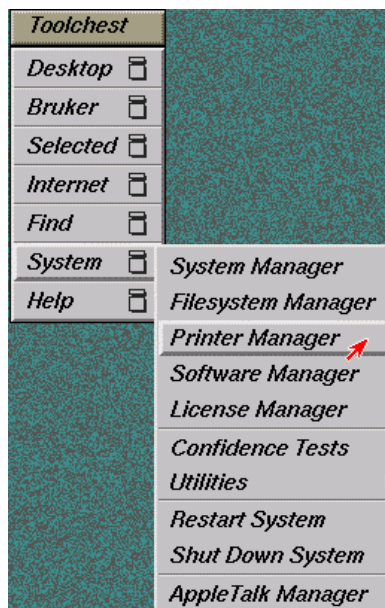

Figure 15-11 Starting the printer manager.
1. **Launch the Printer Manager.** Click the System menu of the Toolchest, and then the Printer Manager command. (See Figure 15-11.)